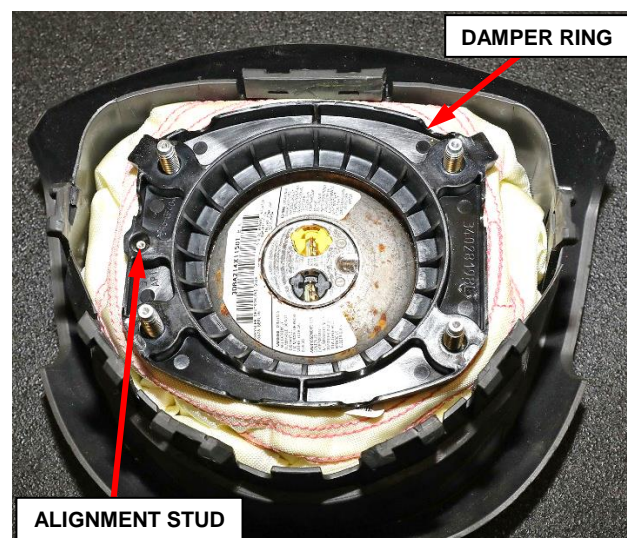

Figure 15 – Damper Ring (KA) Only
2. **(KA) Dodge Nitro**, if equipped, Install the plastic damper ring. Ensure the ring is properly aligned with the alignment stud (Figure 15).